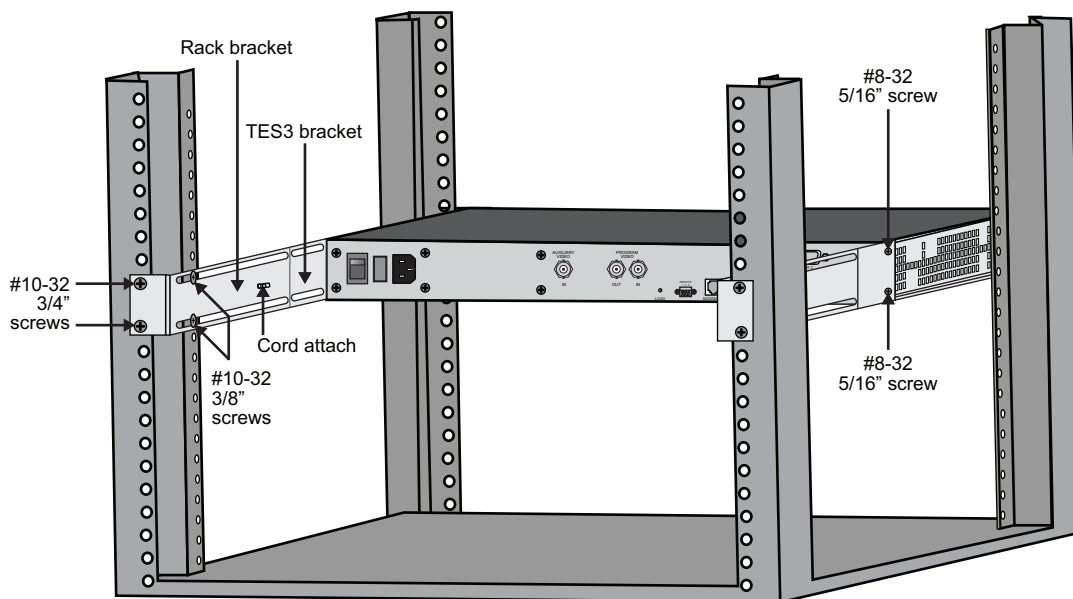

Figure 3.1 TES3 and TES5 Rear View — Rack-mounting Detail
This section describes how to mount the TES3 and TES5 in the rack. In using these instructions, consult **Figure 3.1**. Note that the TES3 and TES5 should be attached to both the front and rear of the rack; because of the weight of the potentially large number of cables connected to the rear of the TES3 and TES5, rear rack mounting is strongly advised.
1. Attach the rear TES brackets (41-10543-01) to both sides of the chassis using the mounting holes near the rear of the TES. Use the #8-32 flat-head screws, and insert them through the countersunk holes in the bracket into the mounting holes on the TES. Refer to **Figure 3.1** for locations. Install four nut clips to the front of the rack, and attach the TES front panel to these clips, using four 3/4" #10-32 screws.
4. Attach the two rear rack brackets (41-10544-01) to the nut clips installed in the preceding step, using two 3/4" #10-32 screws for each bracket. Refer to **Figure 3.1** for locations. Before tightening the screws, ensure that these brackets contact the inner side of the brackets mounted to the TES; that is, they should be closer to the center of the rack than the ones on the TES. The slots in these brackets should also be approximately aligned with the screw holes in the TES brackets.
5. Install two 3/8" #10 screws through the slots in each rear bracket into the captive nuts near the rear end of the TES brackets. Refer to **Figure 3.1** for locations.
7. Insert a tie-wrap through the strain relief bridge on the rack bracket near the TES power entry module; refer to **Figure 3.1** for locations. Pass the tie-wrap around the power cord and tighten it to prevent the power cord from being inadvertently pulled out of the TES.